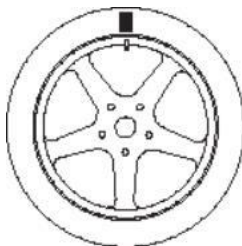

Fig. F5.4 - Marking of the valve position on the tyre
3. Bring the valve to the 12 o’clock position, mark the valve position on the tyre (see figure F5.4);
8. Rotate the wheel until all position arrow LEDs light up and then mark the 12 o'clock position as shown in figure F5.4;